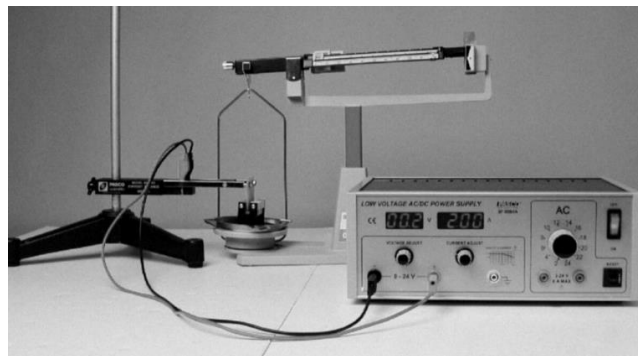

Figure 3.3
1) Set up the apparatus as shown in Figure 3.3 and make sure that the magnet and the current loop board are not in contact.